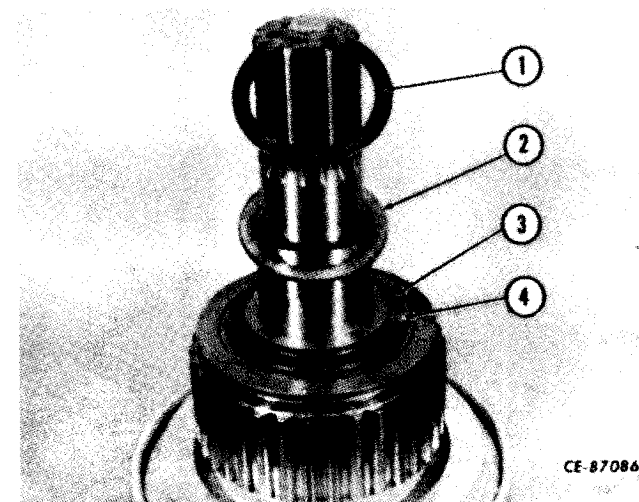

Figure 4-118
Install spacer (3, Fig. 4-118) and locking retainer bolts (4). Coat lightly with heavy grease and install bronze thrust washer (2) and thin spacer washer (1).